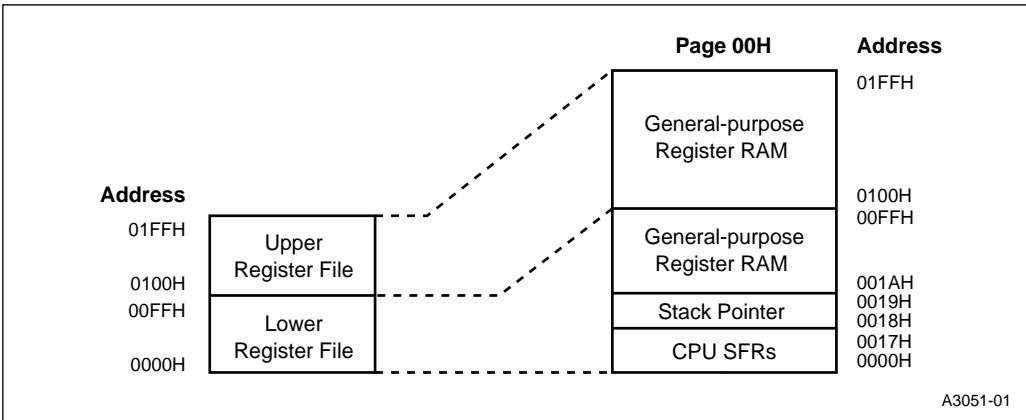

Figure 5-3. Register File Memory Map
The register file is divided into an upper register file and a lower register file (Figure 5-3). The upper register file consists of general-purpose register RAM. The lower register file contains additional general-purpose register RAM along with the stack pointer (SP) and the CPU special-function registers (SFRs). The 80296SA is the first MCS 96 microcontroller to use three-port RAM for the register file. This enhancement allows the CPU to read two source operands at the same time it writes the destination operand from the previous instruction.